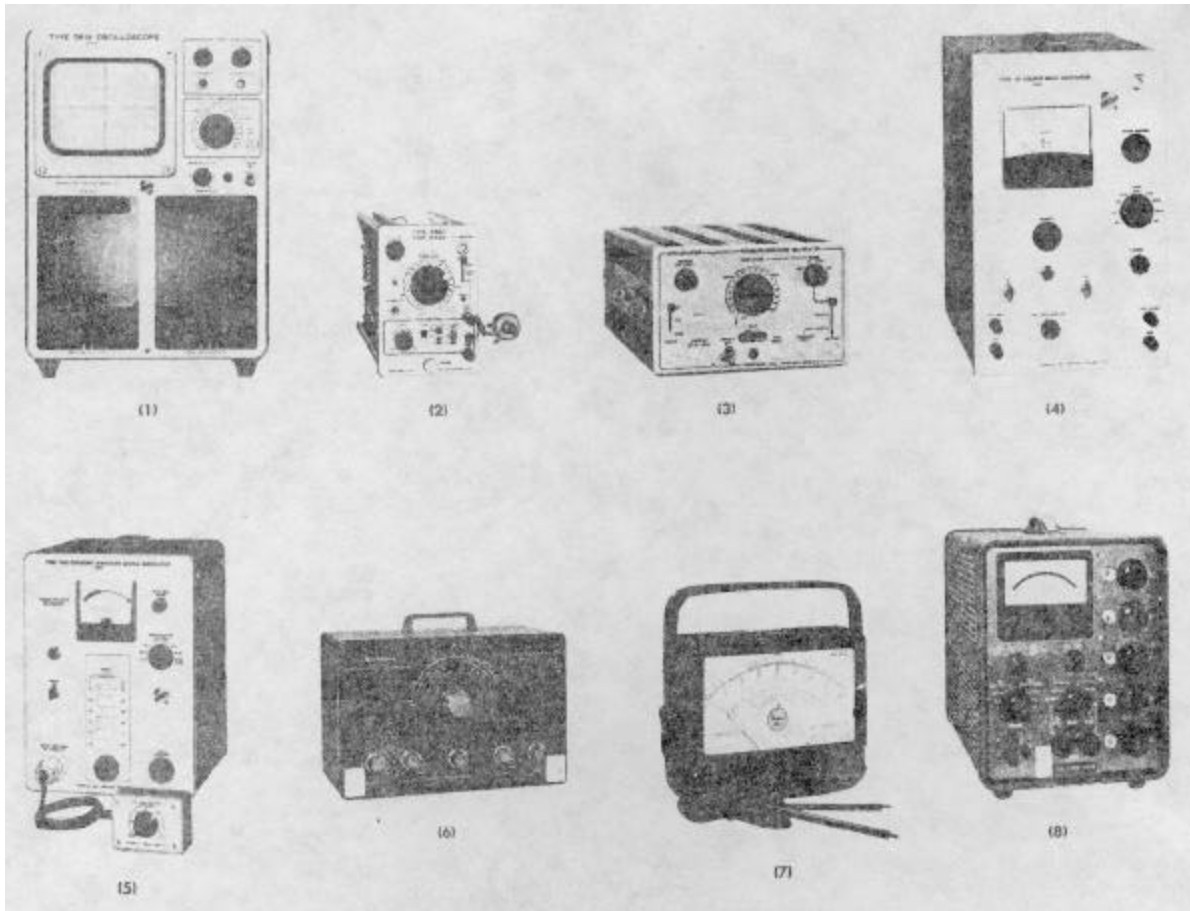
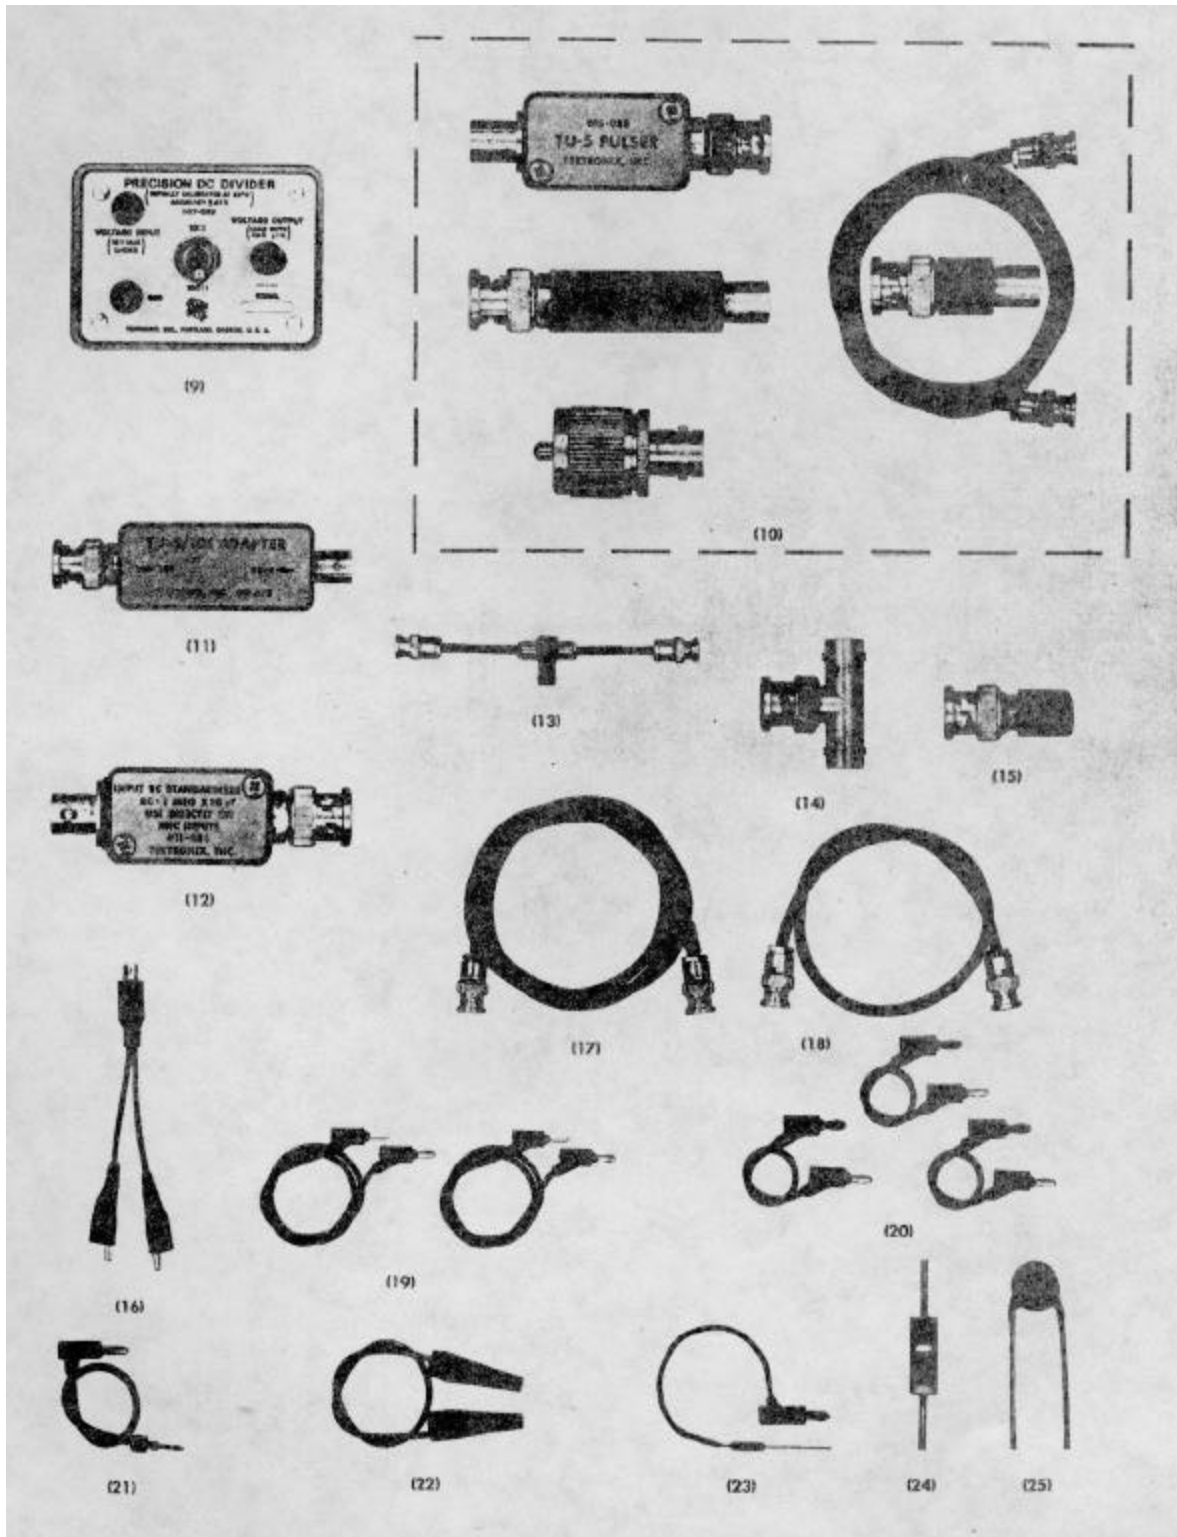
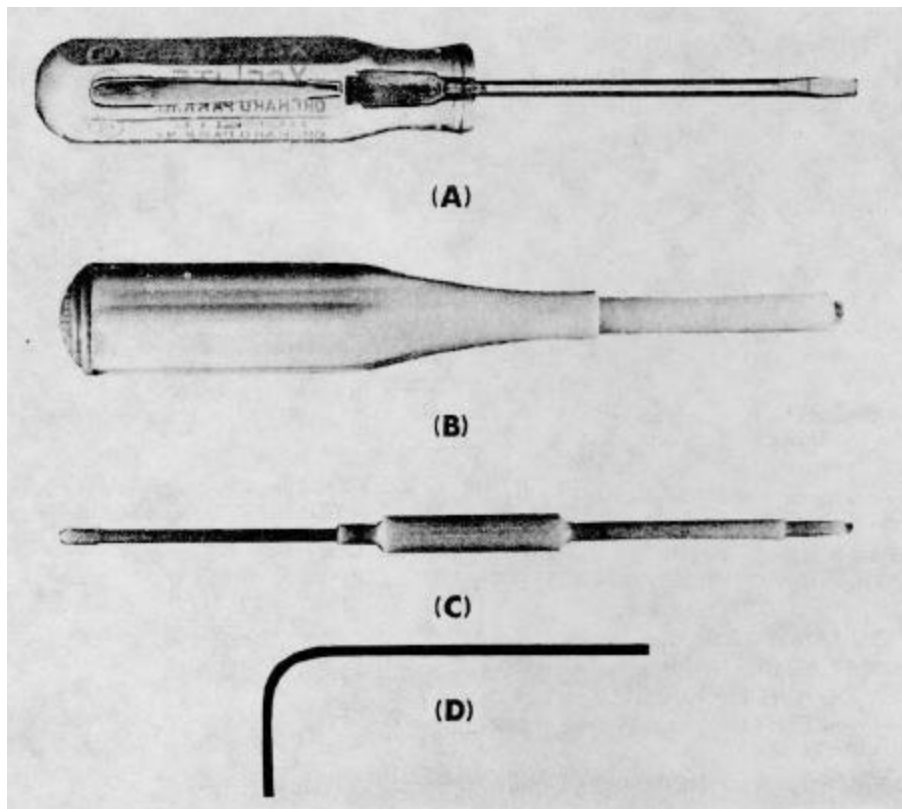

Fig. 5-1. Equipment required for a complete calibration of the Type 3A7.
Fig. 5-2. Accessories used in calibration of the Type 3A7.
Fig. 5-3. Adjustment tools
The following equipment, or equivalent, is required for a complete calibration of the Type 3A7. Exception: Item 7 dc voltmeter can be deleted if you use item 8 to perform steps 2 and 6 in the procedure. Fig. 5-1 shows items 1 through 8; Fig. 5-2 shows items 9 through 23; Fig. 5-3 shows the adjustment tools needed.
(1) Oscilloscope, Tektronix 560-Series which accepts the Type 3A7 plug-in. The oscilloscope must operate properly.
(2) Type 267 Time-Base Plug-In Unit, or equivalent. Required if item 1 does not have its own internal time base.
Horizontal deflection required is approximately 5 V/div. The Type 3B4 Time-Base Plug-in Unit (not shown in Fig. 5-1) is ideally suited for this purpose. Or, a plug-in amplifier can be used if the time-base unit does not have the external horizontal input facility.
If a Type 2B67 is used, the external input sensitivity is about 1 V/div. To obtain a deflection factor of about 5 V/div, simply connect a 50,000-ohm potentiometer between the Ext Input connector and ground as shown in Fig. 5-1, item 2.
(16) Adapter, clip lead. Equipped with a BNC jack connector on one end and alligator clips on the leads. Tektronix Part No. 013-0076-00.
(17) 50-ohm (nominal impedance) coaxial cable, 42 inches long, with a BNC plug connector on each end. Tektronix Part No. 012-0057-00.
(18) 50-ohm (nominal impedance) coaxial cable, 18 inches long; equipped with a BNC plug connector on each end. Tektronix Part No. 012-0076-00.
(19) Two patch cords, 18 inches long, with banana plug and jack combination connector on each end. Tektronix Part No. 012-0031-00.
(20) Three patch cords, 6 inches long, with banana plug and jack combination connector on each end. Tektronix Part No. 012-0024-00.
(21) Jumper lead, 6 inches long, with a tip plug on one end and a banana plug and jack combination connector on the other end. (Tip plug fits Vc OUT jack on Type 3A7.)
(22) Jumper lead, 7 inches long, with miniature insulated alligator clips on each end.
(23) Resistor, fixed, 1 M Ω , 1/2 or 1/4 W, 1%. Tektronix Part No. 323-0481-00 for the 1/2-W resistor. Solder a 4-inch lead equipped with a banana plug to one lead of the resistor.
(24) Resistor, fixed, 47 Ω , 1/2 W, 10%. Tektronix Part No. 302-0470-00.
(25) Capacitor, fixed, 0.001 μ F, 50V or higher. Tektronix Part No. 283-0000-00 for a 500-V discap capacitor.
(26) Adjustment tools (one each, see Fig. 5-3):